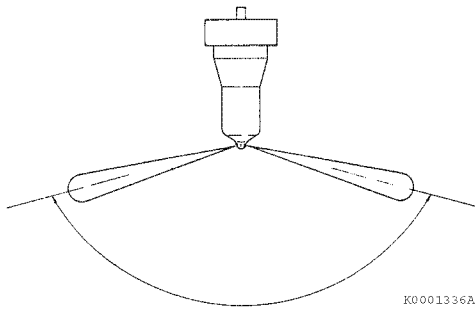
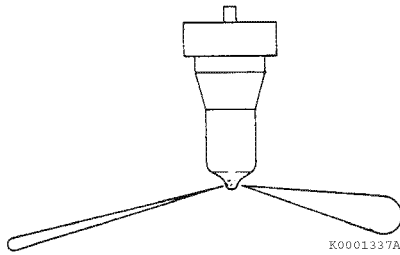

Figure 7-55
Figure 7-56
6. Pump the operating lever more rapidly to repeatedly “pop” the injector and observe the spray pattern. The pattern should be a very fine uniform spray (Figure 7-55). If a dripping or an uneven pattern is seen (Figure 7-56), service or replace the injector.